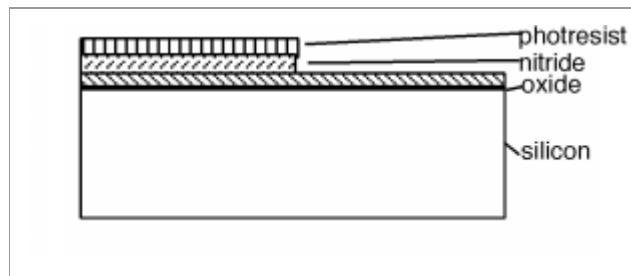

Figure 6
The pattern that was used in the photolithographic (PL) step exposed half of our area to light, and so the photoresist (PR) in that region was removed upon development. The wafer is now immersed in a hydrofluoric acid (HF) solution. HF acid etches silicon nitride quite rapidly, but does not etch silicon dioxide nearly as fast, so after the etch we have what we see in Figure 6.